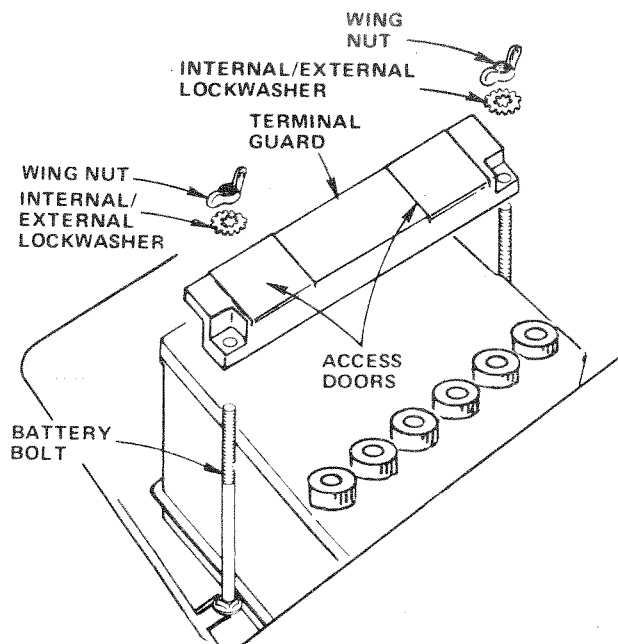

FIGURE 6A
- a. Using the slot on one side of the Battery Support (6A) slide Battery Bolt into Frame Slot (head of down). Fasten the Battery Bolt to the Terminal G using Int./Ext. Lockwasher and Wing Nut as show Fig. 6A.
- b. Assemble the remaining Battery Bolt to other side Battery Support and fasten Terminal Guard to it with maining Int./Ext. Lockwasher and Wing Nut. Tighten Wing Nuts securely by hand (Fig. 6A).
NOTE: USE TERMINAL ACCESS DOORS (FIG. 6A) I